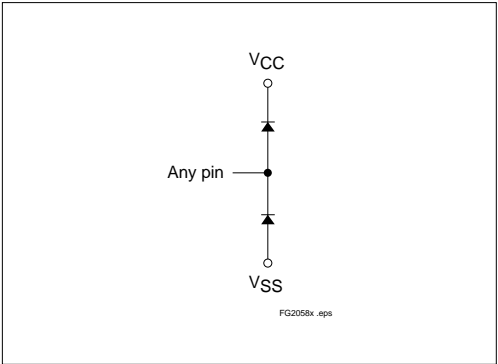

Figure 4. Internal Protection Diodes
- 2. Internal protection diodes are in place on every pin relative to VCC and VSS. See Figure 4.